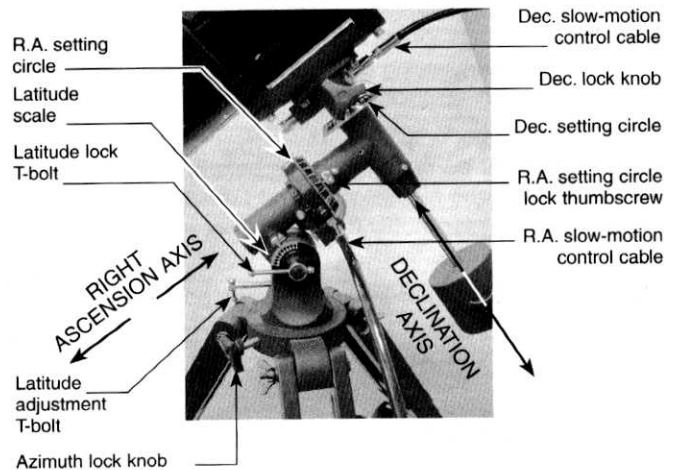

Figure 2. The SpaceProbe 130 ST's equatorial mount.
6. Orient the equatorial mount as it appears in Figure 2, at a latitude of about 40° , i.e., so the pointer next to the latitude scale (located directly above the latitude lock T-bolt) is pointing to the mark at "40." To do this, loosen the latitude lock T-bolt, and turn the latitude adjustment T-bolt until the pointer and the "40" line up. Then retighten the latitude lock T-bolt. The declination (Dec.) and right ascension (R.A.) axes may need re-positioning (rotation) as well. Be sure to loosen the RA and Dec. lock knobs before doing this. Retighten the R.A. and Dec. lock knobs once the equatorial mount is properly oriented.
When you look at the night sky, you no doubt have noticed that the stars appear to move slowly from east to west over time. That apparent motion is caused by the Earth's rotation (from west to east). An equatorial mount (Figure 2) is designed to compensate for that motion, allowing you to easily "track" the movement of astronomical objects, thereby keeping them from drifting out of the telescope's field of view while you're observing.